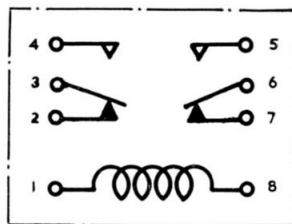

Fig. 3. Circuit diagram
5. In its normal unoperated position (*fig. 3*), contacts 2 and 3, 6 and 7 are made. When the coil is energized, the lower end of the armature plate is pulled inwards across the pole gap, the upper part above the hinge moving outwards, so breaking the normally-